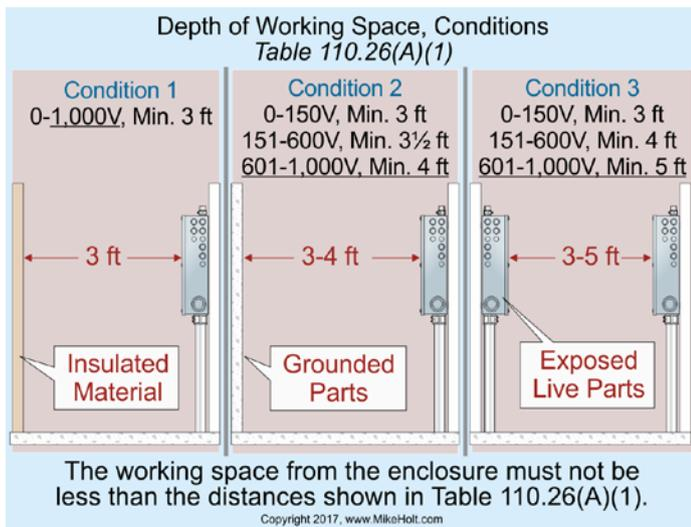

Figure 110-29
(1) Depth of Working Space. The working space, which is measured from the enclosure front, isn't permitted to be less than the distances contained in Table 110.26(A)(1). Figure 110-29